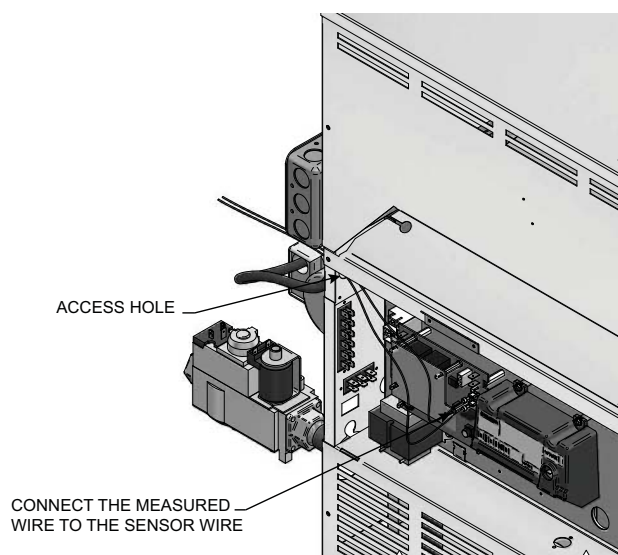

Figure 5-4 *Installation of Remote Sensors*
5. Connect the measured wire to the sensor wire using wire caps (see FIG. 5-4). Install .250 x .032 insulated female quick connect terminals to the end of the wires. Feed the wires through the access hole located on the back of the unit and secure the connectors to the thermostat connections (Sys/Tank) CN5 and CN6 located in the upper right-hand of the thermostat.